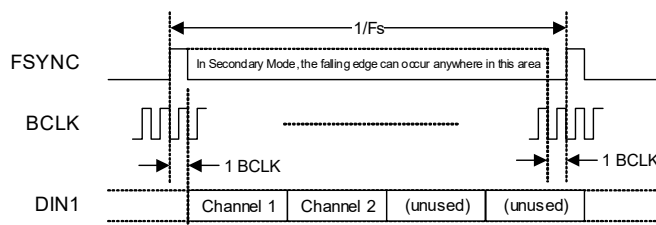

Figure 4-12. TDM Data Format—1 x DIN
- In TDM Mode, the FSYNC frame is configured for 1, 2, 4, 8, or 16 slots as specified in Table 4-12. In 4-, 8-, and 16-slot modes, the slot assignment for audio channels 1–2 is selected using the CONFIG3 pin (in hardware control mode—see Section 4.2) or else using ASP_TDM_SLOT (in software control mode). In 2-slot modes, the default slot assignment (slots 0–1) should be selected. The BCLK rate is related to the sample rate (fs) as described in Table 4-12. Where applicable, the BCLK rate can be higher than the stated minimum, resulting in additional unused BCLK cycles between the last slot in the frame and the start of the next frame. In 2-, 4-, 8-, and 16-slot modes, the input data is provided on ASP_DIN1; the ASP_DIN2 pin is not used. The 4-slot TDM format is shown in Fig. 4-12. In the example shown, audio channels 1–2 occupy TDM slots 0–1 respectively.